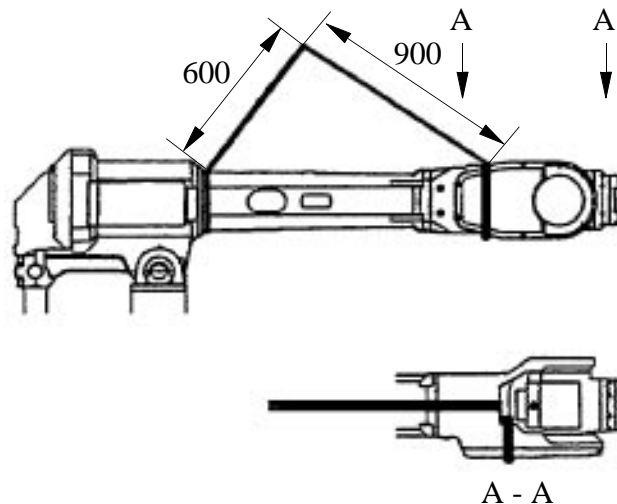

Figure 4 Lifting the upper arm.
3. Attach a hoist to the upper arm. See Figure 4.